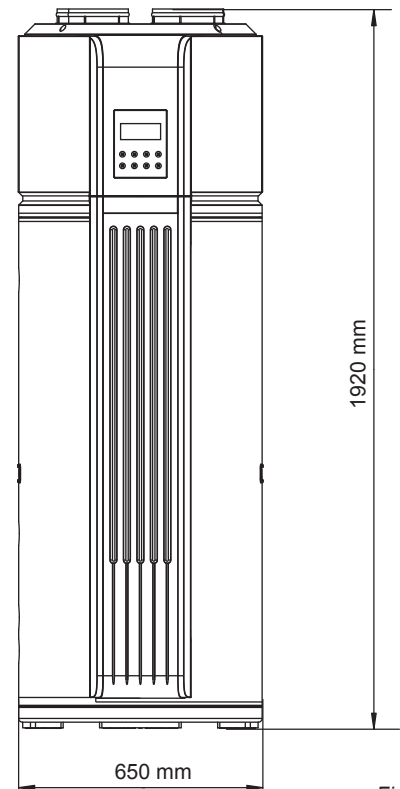
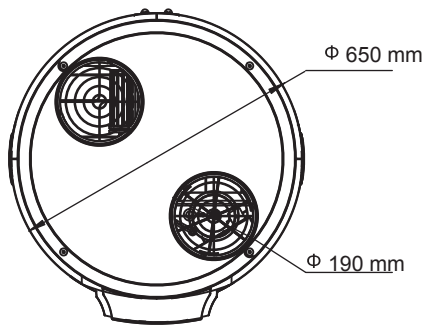

Fig. 4-1
Fig. 4-2
- Outline dimensional drawing(see Fig. 4-1, Fig. 4-2)